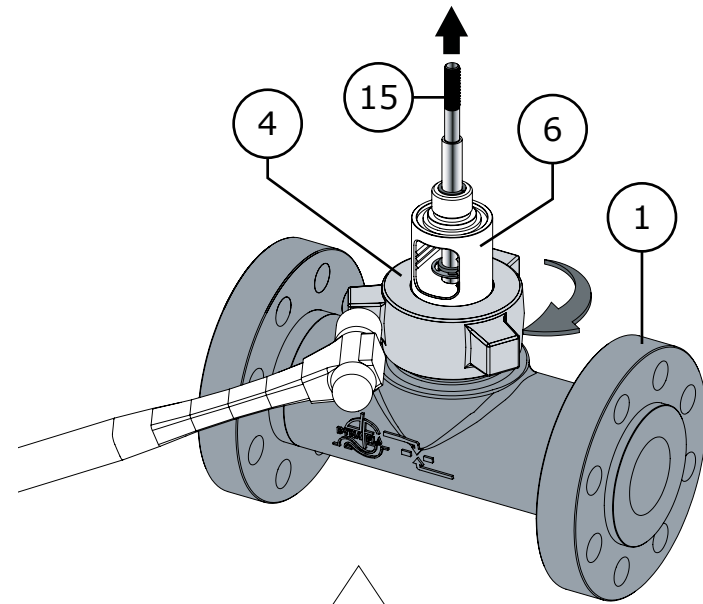

Figure 39 Hammer Nut Tightening
- Hold the bonnet assembly in place during tightening so that it does not twist out of alignment. Tighten/torque the hammer nut (Key 4) to 200 lbs-ft. When the hammer nut is properly tightened the packing inside the bonnet will have reached the proper load, refer to Figure 39.